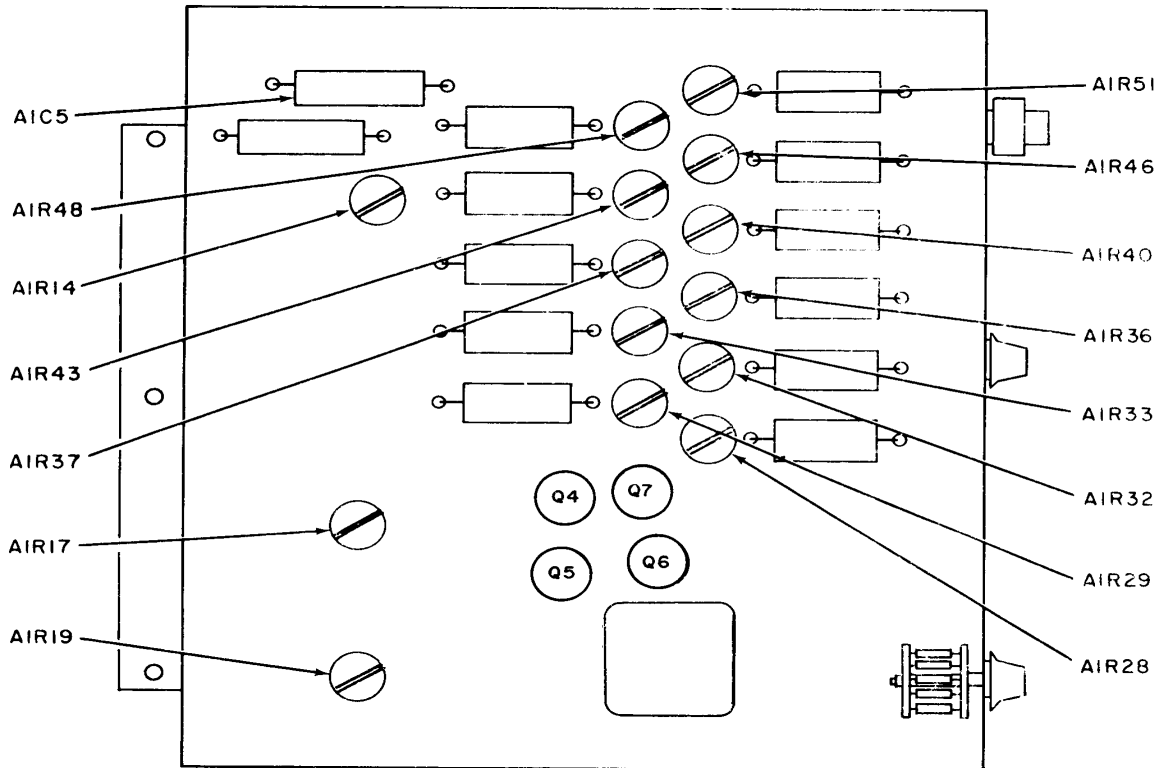
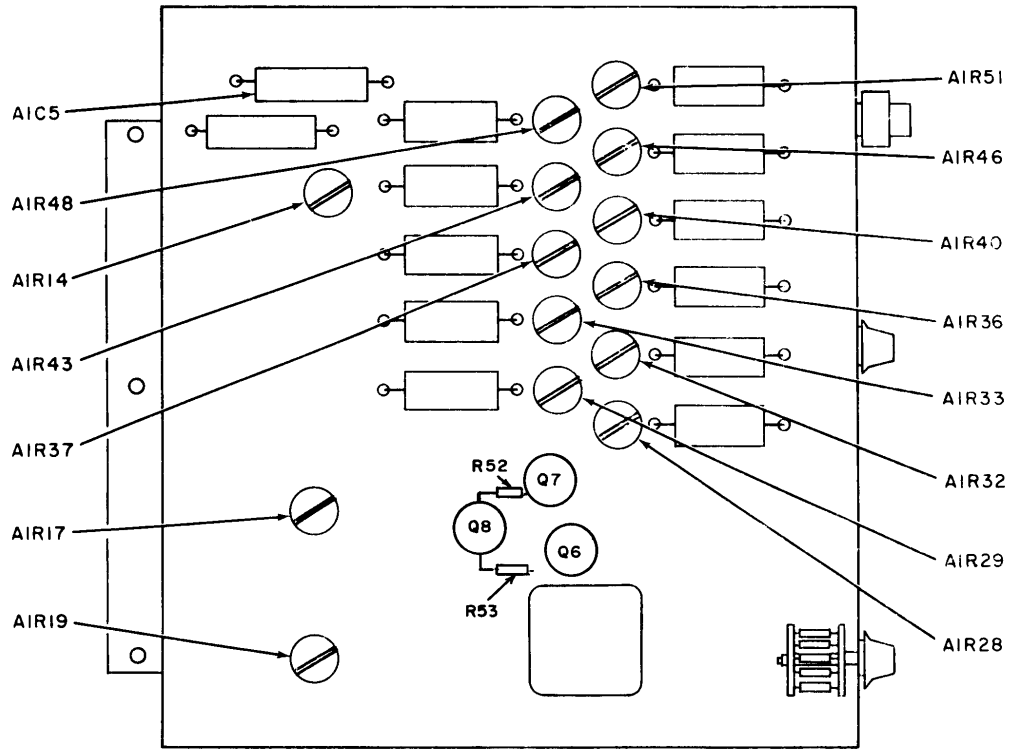

Figure 1. Calibrator assembly board A1-top view. (S/N prefixed 610 or 613).
Figure 2. Calibrator assembly board A1-top view (S/N prefixed 739 or 811A).
b. Adjustments. Adjust A1R28 (fig . 1 or 2) to obtain an indication of 632.46 mV on dc voltmeter (R).
(1) Set FUNCTION switch to CURRENT OFF.
(2) Connect dc voltmeter (A2) across capacitor A1C5 (fig. 1 or 2), using two test hook probes (B3). If dc voltmeter does not indicate between -29.95 and -30.05 Vdc, perform **b(1)** below.
(3) For TIs with serial numbers prefixed 610 or 613, connect dc voltmeter between negative side of A1C5 (fig. 1) and base of A1Q5 (fig. 1), using two test hook probes. For TIs with serial numbers prefixed 739 or 811A, connect dc voltmeter between negative side of A1C5 (fig. 2) and base of A1Q8 (B) which is at junction with R53 (fig. 2). If dc voltmeter does not indicate between +17.748 and 17.752 Vdc, perform **b(2)** below.
(1) Adjust A1R14 (fig. 1 or 2) to obtain dc voltmeter indication of -30.00 Vdc (R).
(2) Adjust A1R17 (fig. 1 or 2) to obtain indication of +17.750 Vdc on dc voltmeter (R).
(3) Adjust A1R19 (fig. 1 or 2) to obtain indication of +12.551 V dc on dc voltmeter (R).